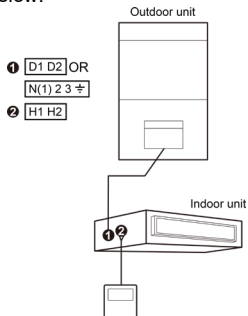
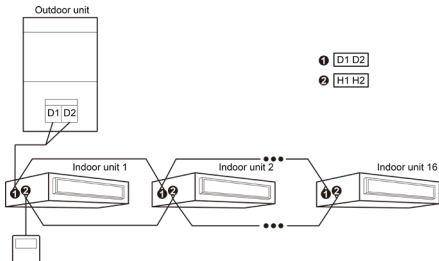
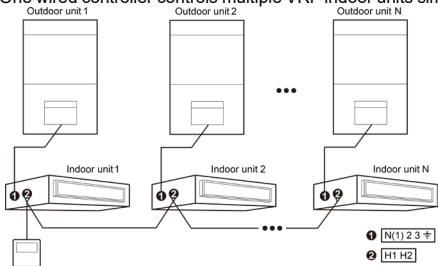

Fig. 5.4 One wired controller controls one indoor unit
Fig. 5.5 One wired controller controls multiple VRF indoor units simultaneously
Fig. 5.6 One wired controller controls multiple Packaged Unit simultaneously
- (1) The wiring methods in fig. 5.4 and fig. 5.6 can be adopted for the wired controller connecting Packaged Unit. It's suggested that the length of communication wire between devices should be 8m.
- (2) The wiring methods in fig. 5.4 and fig. 5.5 can be adopted for the wired controller connecting VRF unit. It's suggested that the average length of communication wire between devices should be 15m.
- (3) Only the wiring methods in fig. 5.4 can be adopted for the wired controller connecting Compact Type unit or Air-cooled Packaged unit, that is, one wired controller can control only one indoor unit, cannot control multiple indoor units of different systems.
- (4) When one wired controller controls multiple indoor units simultaneously, the wired controller can connect to any one indoor unit, but the connected indoor unit must be the same series indoor unit. The total quantity of indoor unit controlled by wired controller can't exceed 16 sets, and the connected indoor unit must be within the same indoor unit's network. Wire controller must set quantity of group control indoor units. Please refer to 5.2.2 Parameter Setting.
- (5) The terminal of the wire controller is non-polarized and cannot be connected to strong electric.